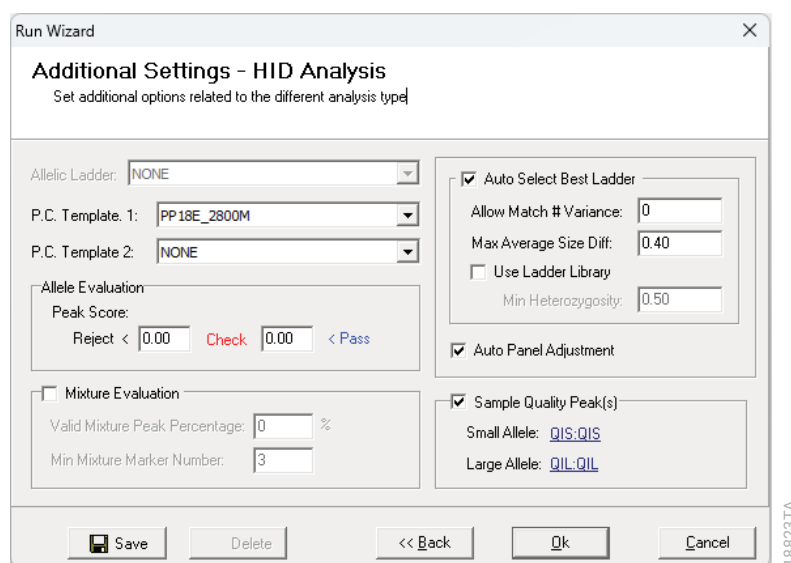

Figure 23. The 'Additional Settings' window for an analysis method.
10. The 'Additional Settings – HID Analysis' window will appear (Figure 23). Select **18E_2800M** as the P.C. Template 1 and verify that the boxes are checked for "Auto Select Best Ladder", "Auto Panel Adjustment" and "Sample Quality Peak(s)". If the PowerPlex 18E positive control template is not available, consult the *GeneMarker®HID Software for Spectrum CE Systems User Manual #TM555* and use the Positive Control Template Editor to set up a new template. Ensure that "QIS:QIS" is selected for the Small Allele and "QIL:QIL" for the Large Allele in the Sample Quality Peak(s) Section. The values displayed in the Allele Evaluation dialogue box are defaults and will affect the quality values displayed in the plot settings. For more information on quality values, use of a second positive control and mixture evaluation, refer to the *GeneMarker®HID Software for Spectrum CE Systems User Manual #TM555*. Select **OK** to analyze the raw data.